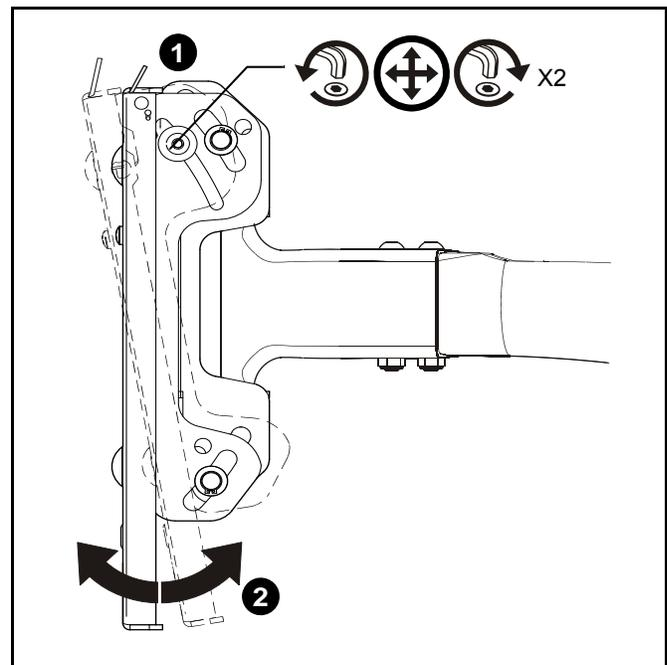

Figure 8
1. With display installed, tighten or loosen two screws, one on each side, using the 5/32" hex wrench. (See Figure 8)